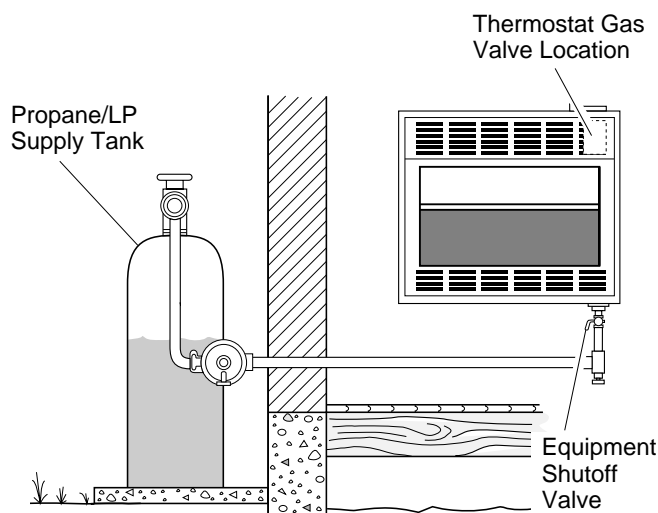

Figure 21 - Checking Gas Joints
3. Check all joints from propane/LP supply tank to equipment shutoff valve (see Figure 21). Apply mixture of liquid soap and water to gas joints. Bubbles forming show a leak.
4. Check all joints from equipment shutoff valve to thermostat gas valve (see Figure 21). Apply mixture of liquid soap and water to gas joints. Bubbles forming show a leak.